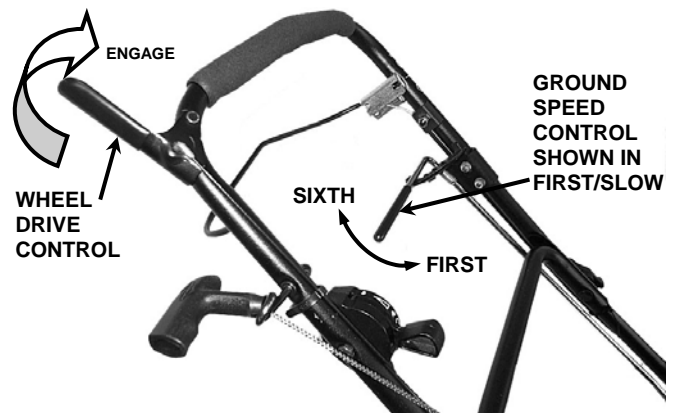

FIGURE 2.7
2. Move ground speed control to the desired speed position. See Figure 2.7.
3. Move wheel drive control against handle to engage wheel drive and propel mower forward. Forward speed can be adjusted while the mower is moving by changing position of the ground speed control. See Figure 2.7.